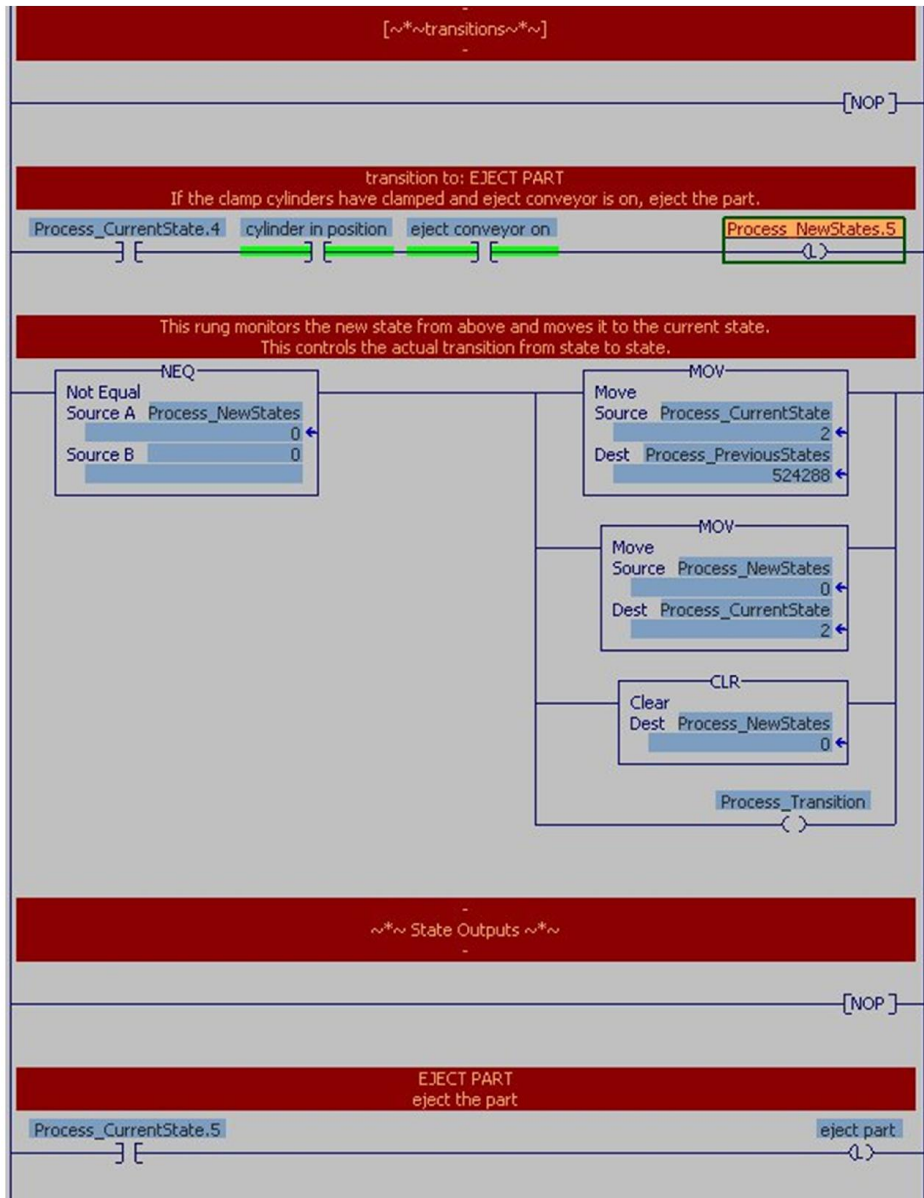

Figure 2 - Part of MSM Implemented in Ladder Logic
Step 3 – implement the diagram in code. The PLC code implementation is what makes this diagram so powerful. It is a simple latch/unlatch of transitions (Process\_NewStates) based on inputs. Then, a simple latch/unlatch of outputs based on states (Process\_CurrentState). See Figure 2.